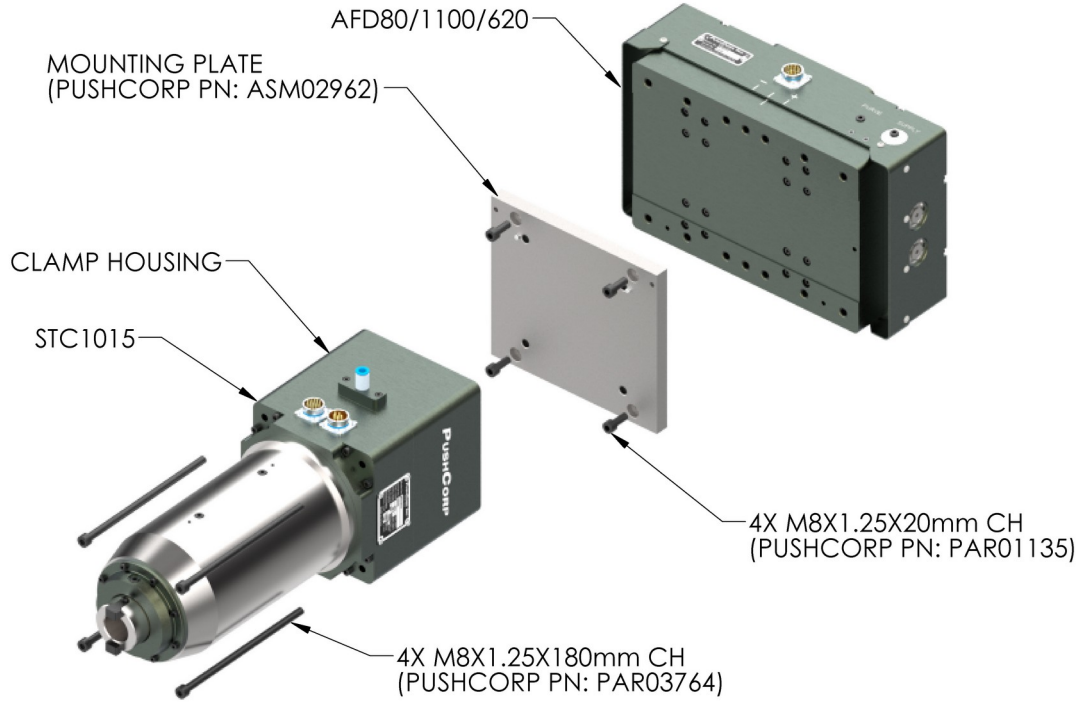

Figure 1: STC1015 Perpendicular-Axis Configuration
To attach the STC1015 to an AFD in a Perpendicular-Axis configuration, position the Clamping Housing over the Carriage as shown in Figure 1. Then secure the unit using four (4), M8x1.25x180mm, Socket Head Cap Screws. Tighten the fasteners to the torque specified in Section 4.0.